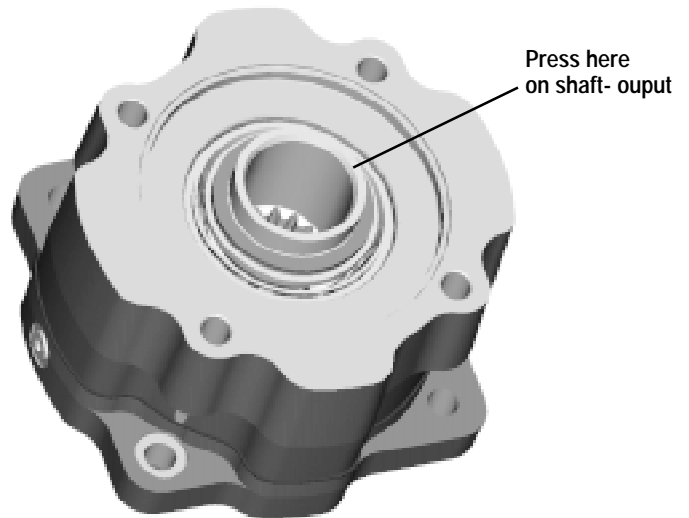

Figure 2.
- 7 Remove **washer (26)** and **shims (27)** from **shaft-output (1)**.
- 8 Press on motor side of the **shaft-output (1)**. Slowly increase pressure until shaft drops through brake assembly, see figure 2.
**Note:** the sprocket side of the **shaft-output (1)** needs to be supported.
**Caution:** Once the shaft passes through the **bearing-cone (18)** the shaft will fall free.